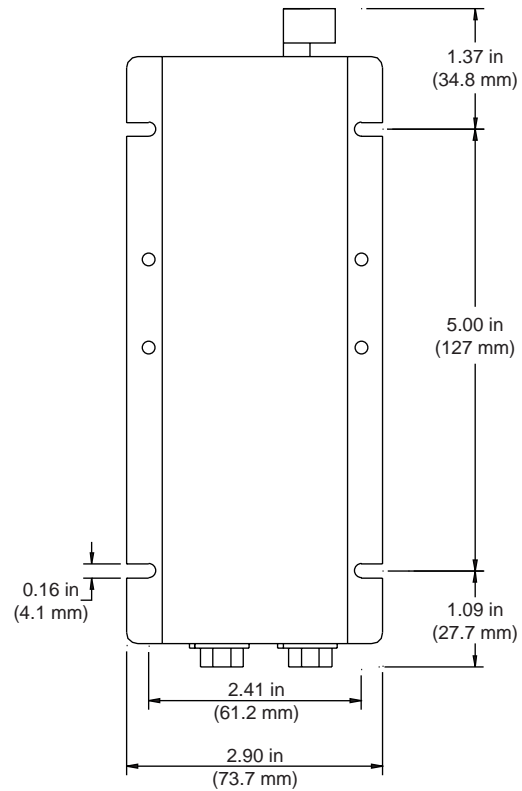

Figure 2.8 CIM300 Template
2. Use the dimensions shown in Figure 2.8 as a reference for clearance and dimensions